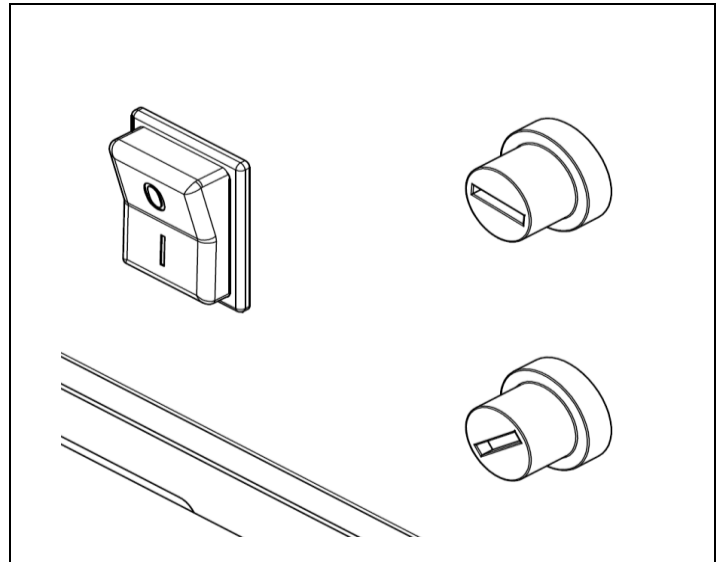

Figure 10
- Set the cooker switch to position 1. (Figure 10)